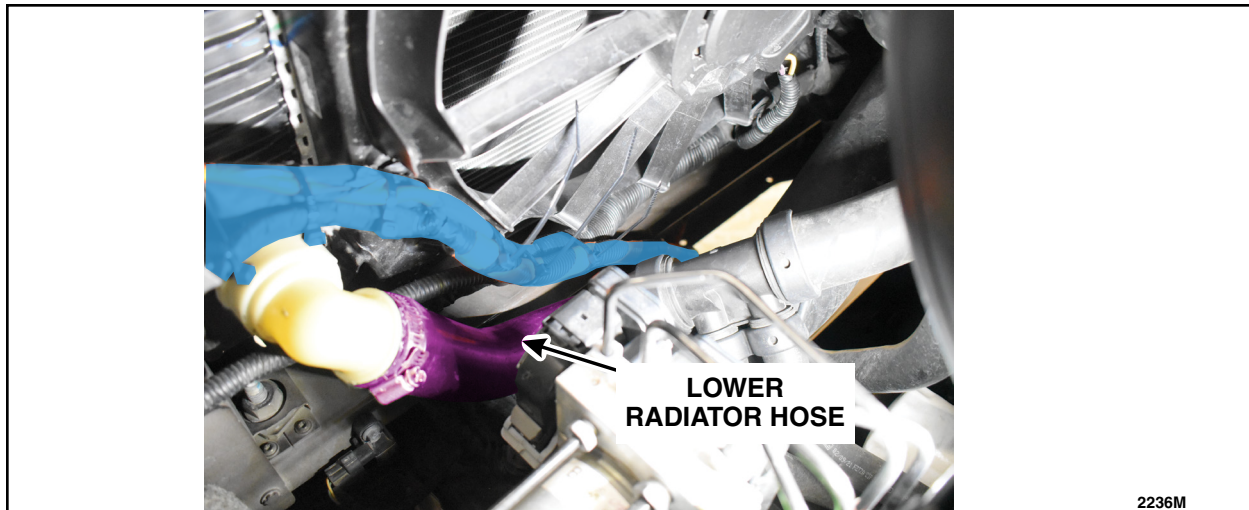

FIGURE 19
22. As you follow the 14290 harness down, be sure to zip tie the aux box harness away from the lower radiator hose. This step is critical. See Figure 19.